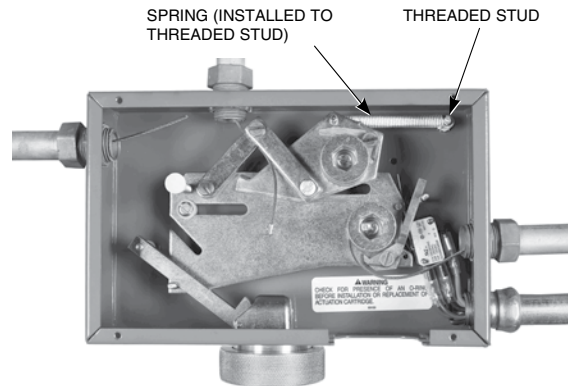

FIGURE 25
5. Install the spring to the threaded stud in the upper right corner of the mechanical control head. See Figure 25.